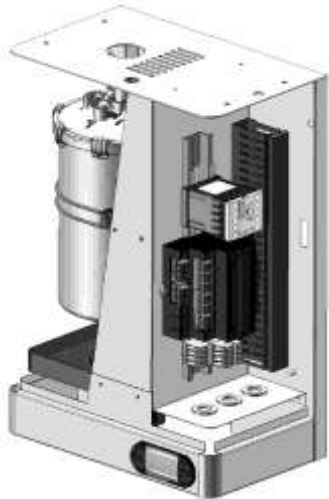

Fig. 1
2. Remove the stainless steel cover of the humidifier by turning the 2 locks on each side. (**Fig. 1**),